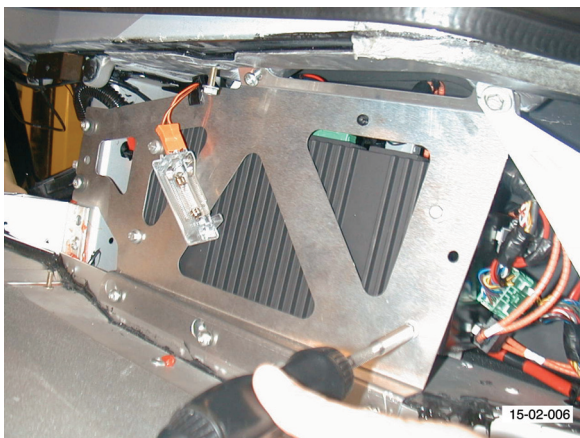

Fig. 2
6. Remove Torx screws (x6) from amplifier bracket to body (see Fig. 2).